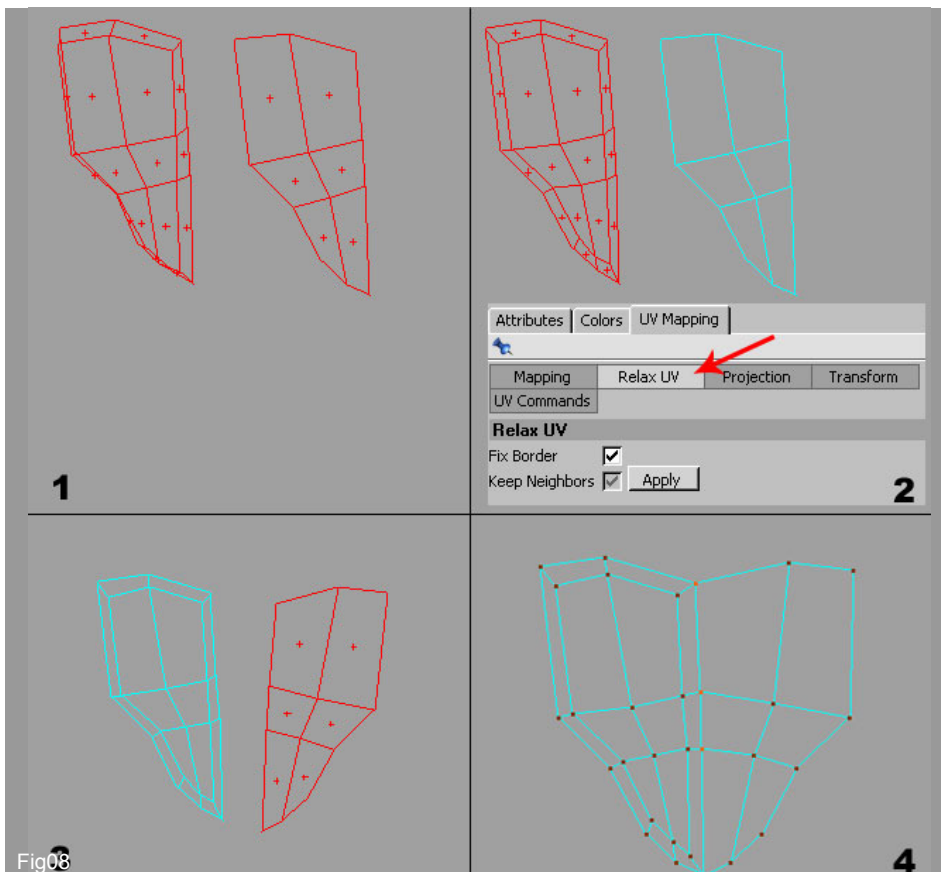

Fig08
8. Overlap now the ears as we did for the head. Still working on the ears, select now the back faces and detach them by using move tool as seen on the stage 1 of Fig08. Select the frontal faces of the ears and apply Relax UV (or move manually the points in order to avoid the overlaps of the mesh) like shown at the stage 2. Select now the back faces and use the Mirror U tool (stage 3). Attach the two parts by moving and snapping the central points as seen at stage 4 of figure. If it's necessary scale the mesh of the ears to keep the squares a similar size to those of the head.